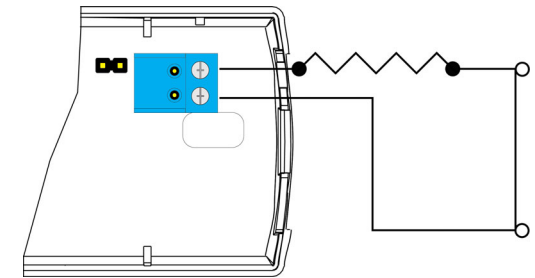

Figure 3 Wired for N/C operation
2. Wire the 2.2K ohm resistor in series with the N/C contact per Figure 3.